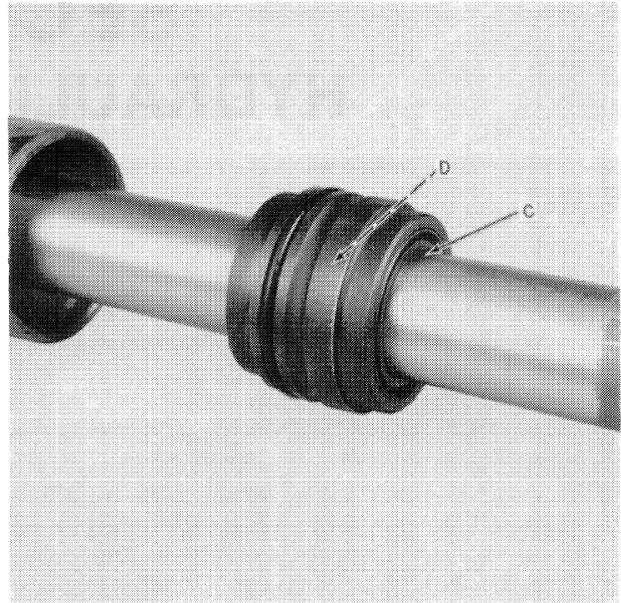

FIGURE 2-6
2. Install a new seal inside cylinder head, D, Figure 2-6. Install seal, C. Slide the cylinder head assembly over the piston rod.